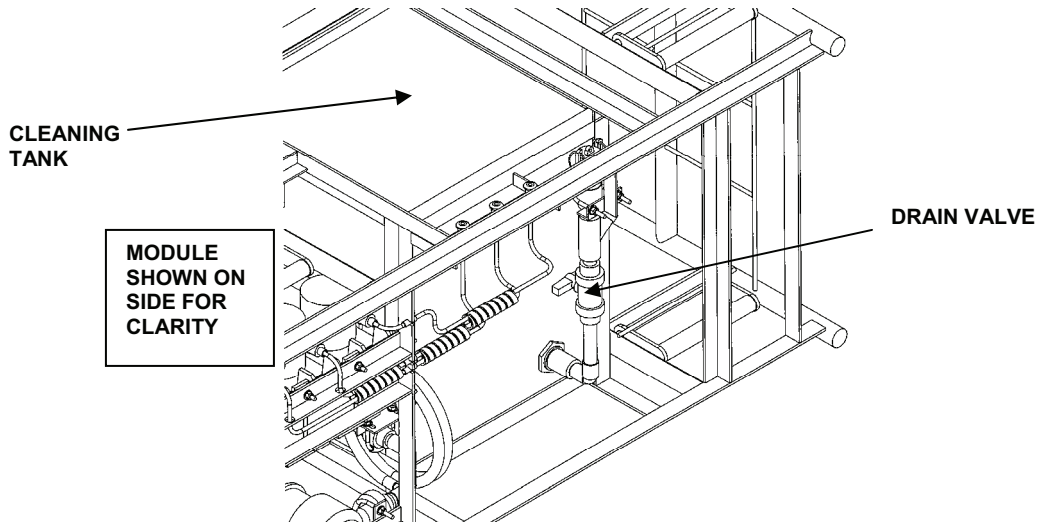

Figure 1. Cleaning Tank Drain Valve.
1. Make sure cleaning tank drain valve is closed on the chemical module. See Figure 1.